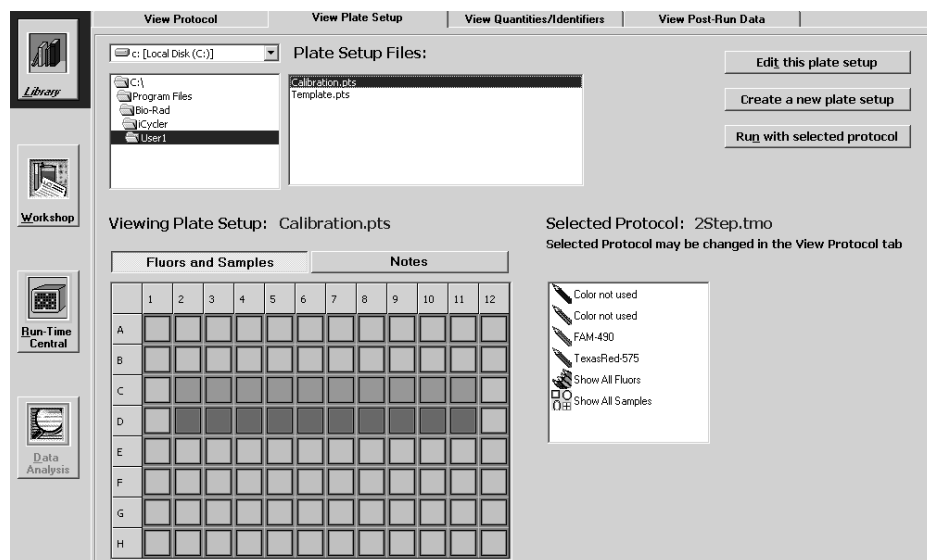

Fig. 4.2. Library / View Plate Setup Window, Fluors and Samples, Show All Fluors View.
- **View Plate Setup:** Allows navigation of stored plate setup files. Provides information about the location of sample wells, the sample type and the fluorophores that will be analyzed in each (see Figures 4.2 and 4.3).
In this window, you can navigate the directory of plate setup files. When a plate setup file name is highlighted in the directory tree, the details of the plate setup, including the monitored wells, the sample types loaded in each well and the fluorophores loaded in each well, are displayed in the View Plate Setup window (Figure 4.2).